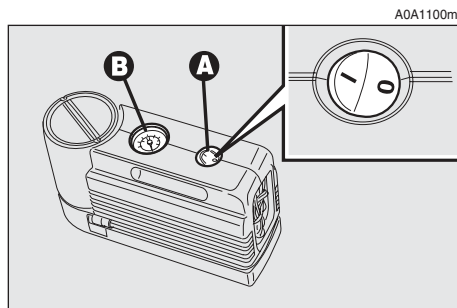
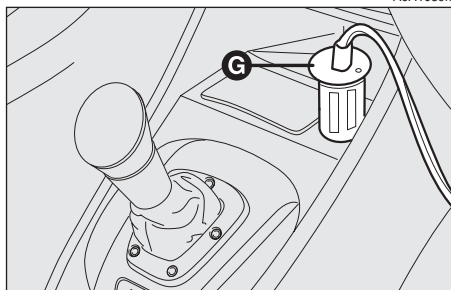

fig. 15
fig. 16
- make sure that the compressor switch **A-fig. 15** is in position **0** (off), start the engine, insert the plug **G-fig. 16** in the socket/lighter on the front tunnel and start the compressor by taking the switch to **A-fig. 15** position **I** (on);
- inflate the tyre to the correct pressure value. You are advised to check the tyre pressure value on the pressure gauge **B-fig. 15** with the compressor off, in order to have a more accurate reading;